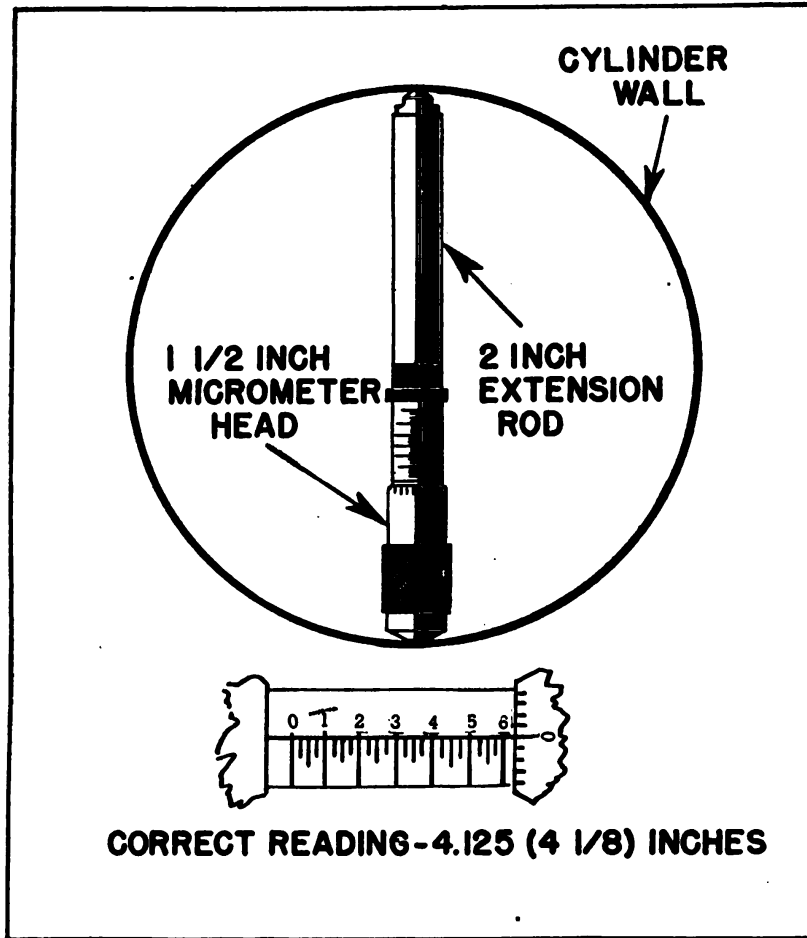

FIGURE 105.—Measuring inside diameter with micrometer.
c. Measuring inside diameters.—(1) Figure 105 shows the correct position of an inside micrometer for taking the inside measurement of a round piece of work, such as the diameter of a gasoline engine cylinder.